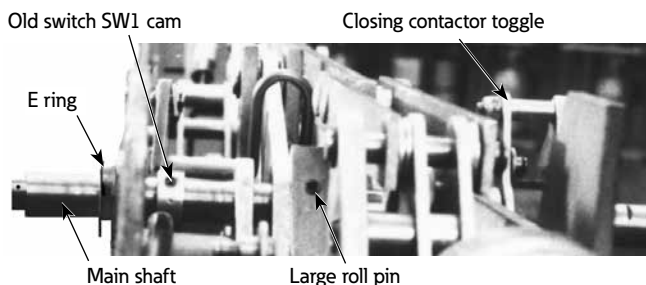

Figure 20. Items to remove on main shaft.
2. Detach large lower spring (Figure 20) to relieve tension on operating mechanism.
1. Reconnect the large spring in lower portion of mechanism (Figure 20).